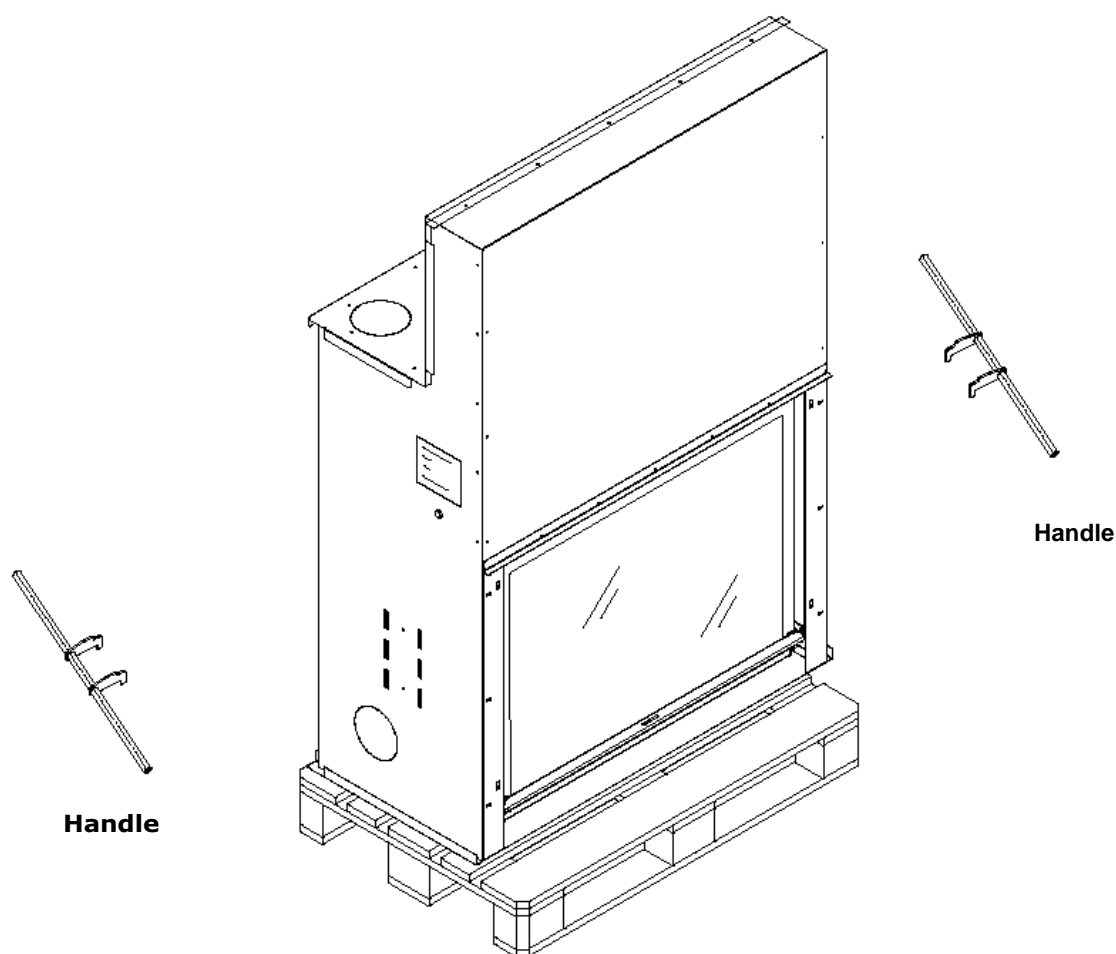

Figure 1: Transport
- We put a set of transport handles at your disposal, which can be inserted at the side of the appliance in the openings provided for that purpose (figure 1).